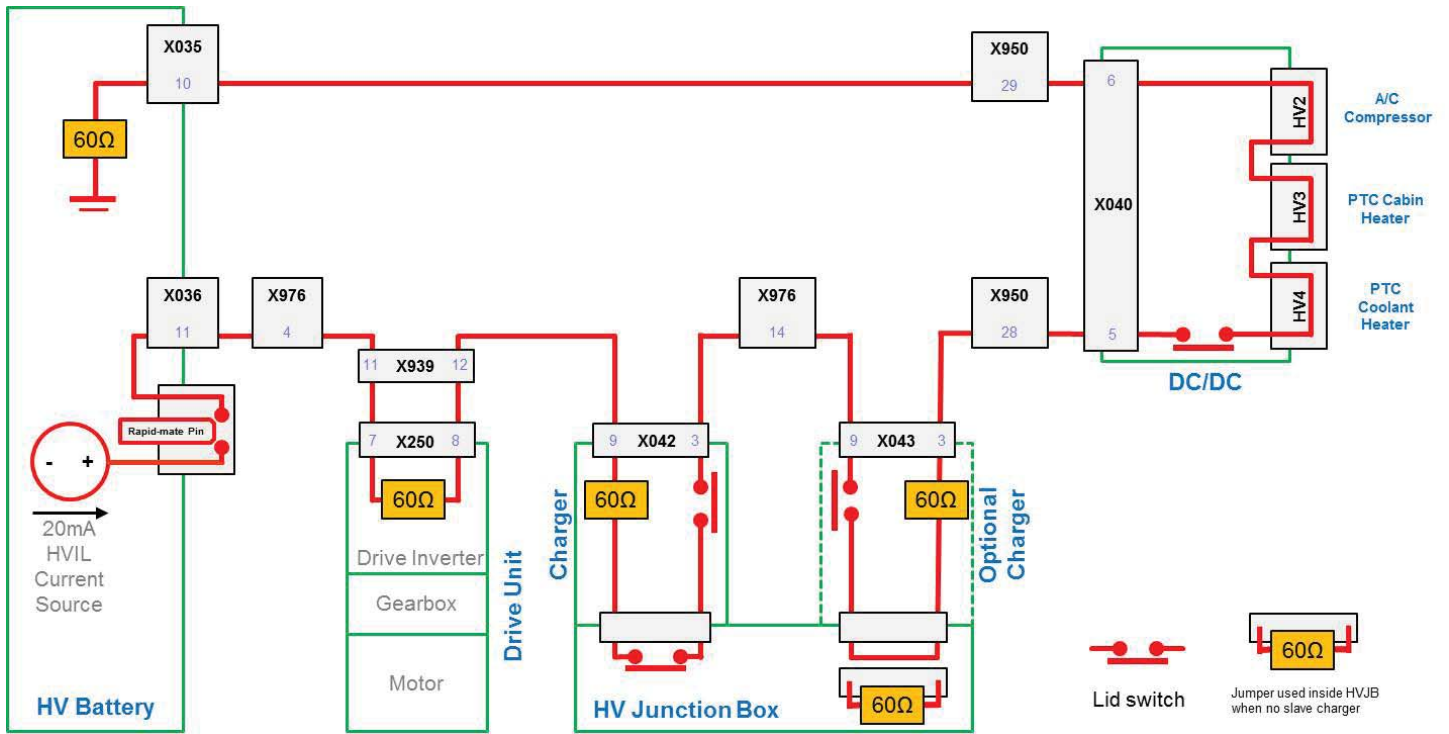

Figure 10
2. Measure resistance at the points listed in Table 1. Refer to the continuity check schematic (Figure 10) and expected connector measurements (Table 2).
3. Check the functionality of the HVJB lid reed switch. When the cover is removed, it should measure open loop (OL); with the cover installed, it should measure 0.1Ω – 0.6Ω. If the switch is faulty, order a new HVJB.